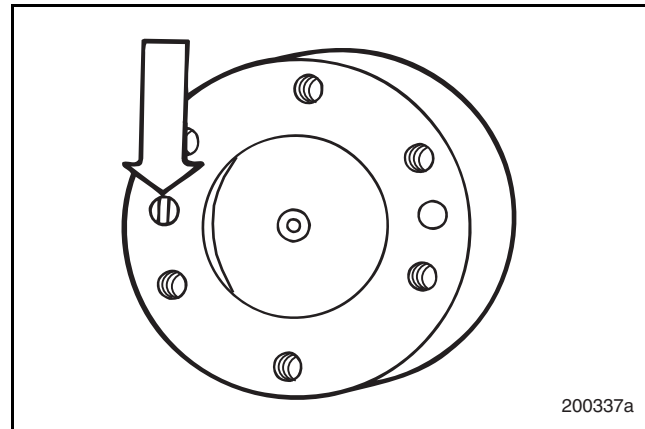

Figure 5-8 — Dowel Pin Alignment
Refer to Figure 5-8.
1. Position dowel pin in a 0.5562-inch (14.1275 mm) diameter unthreaded hole in rear of crankshaft. The pin must be installed with the flat surface aligned parallel to the center of crankshaft, as shown in Figure 5-8.